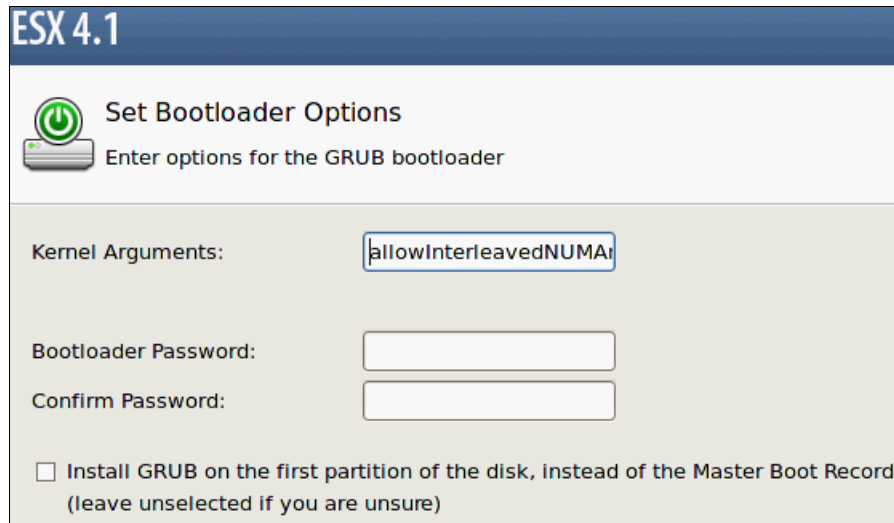

Figure 6-57 Editing the bootloader options
11. Proceed through the installer to the Set Bootloader Options page and type the following parameter in the Kernel Arguments text box, as shown in Figure 6-57: